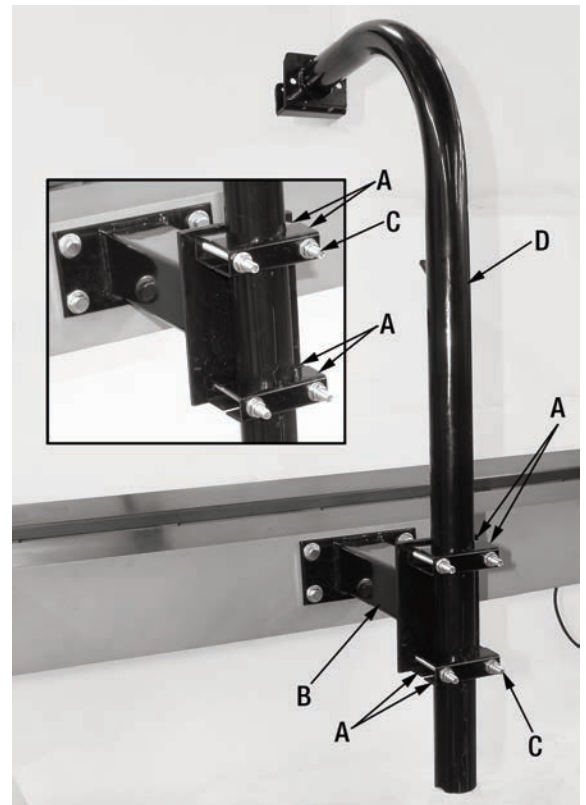

FIGURE 2
1. Install the top and bottom clamping plates (A) Fig.2 to the mounting bracket (B) as shown using 4 hex. bolts, 8 washers and 4 hex. nuts (C), do not tighten hardware at this point.
2. Slide the safety guard arm (D) Fig.2 into the top and bottom clamping plates (B) and secure the arm by tightening the 4 hex. bolts, 8 washers and 4 hex. nuts (C).